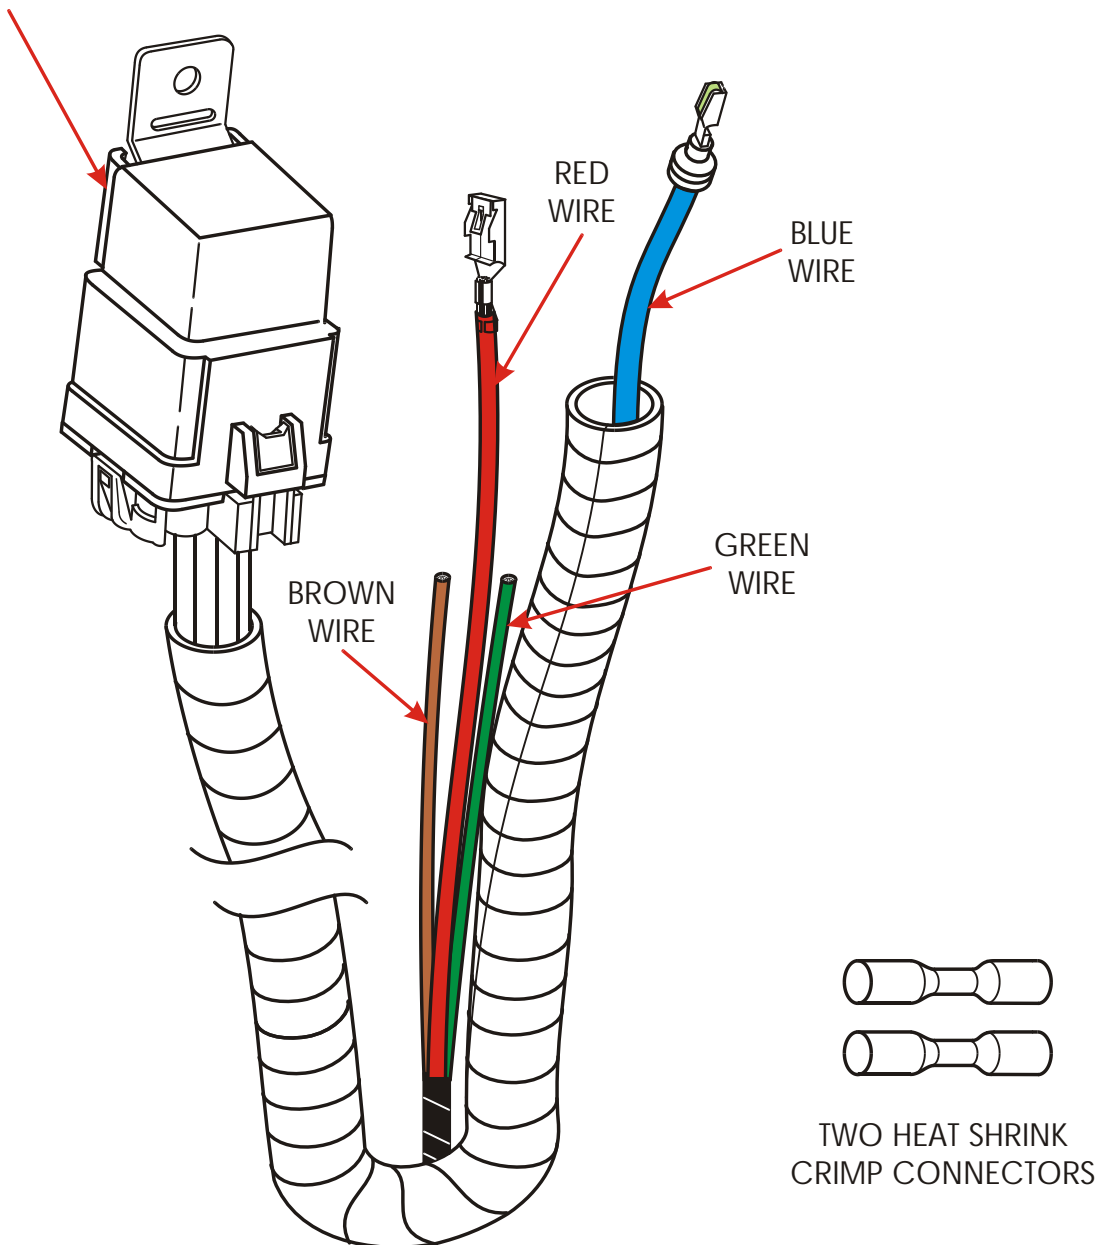
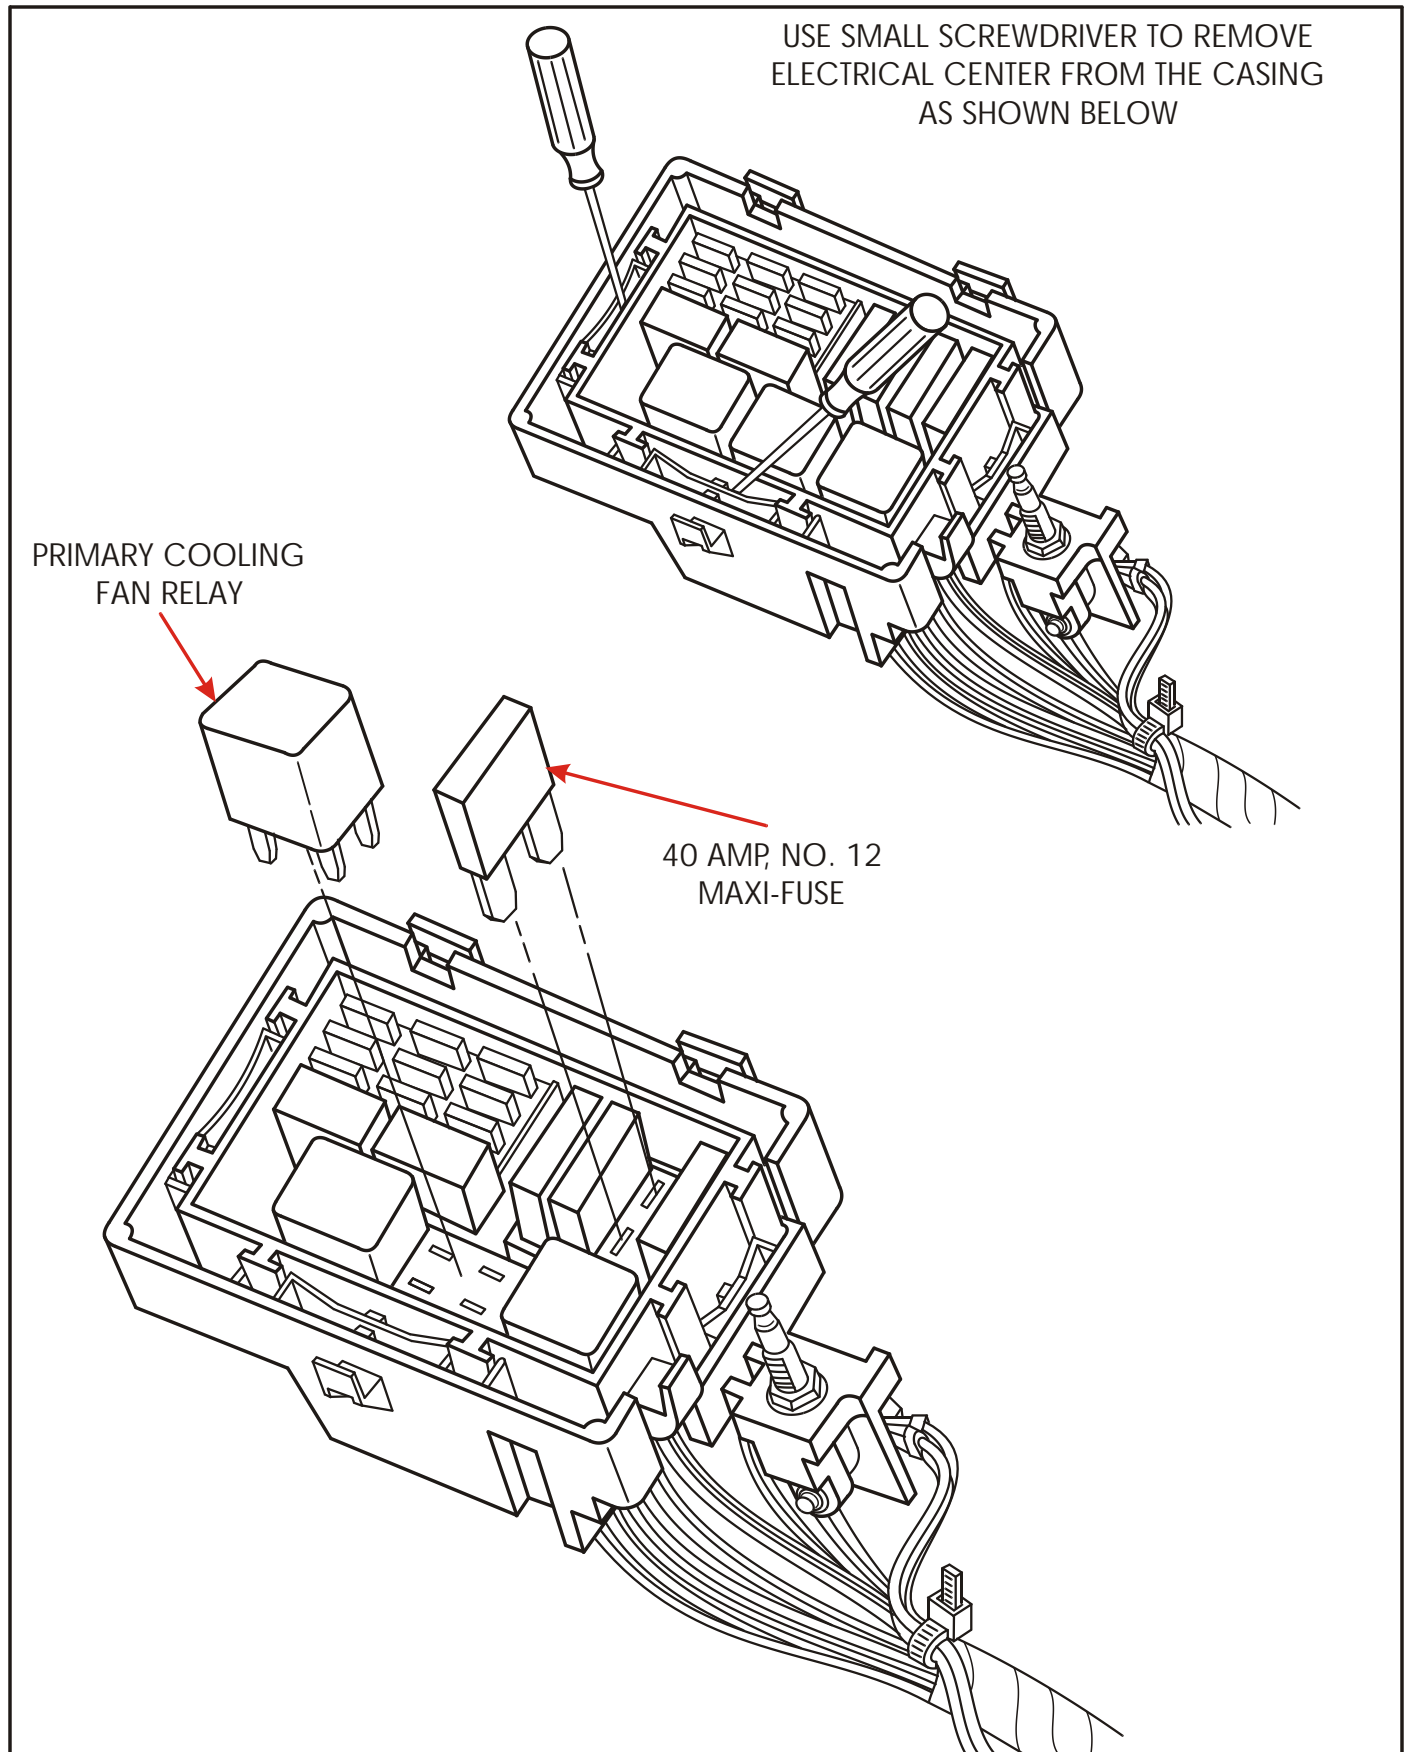

Figure 1
Figure 2
**CORRECTION:** A new service package is available under OEM part number 12167644, that moves the Primary Cooling Fan Relay to a new location and upgrades the terminal ends. No instructions are provided in the service package, so you will need this bulletin for installation instructions. Contents of the service package are shown in Figure 1.
- (1) Disconnect the Negative battery cable.
- (2) Locate the underhood Electrical Center, located at the top rear of the right front wheel housing, and remove the cover.
- (3) Remove the Electrical Center from the casing, by releasing the tabs using a small screwdriver, as shown in Figure 2.
- (4) Remove the current Primary Cooling Fan Relay and the 40 Amp, number 12 Maxi-fuse, as shown in Figure 2.